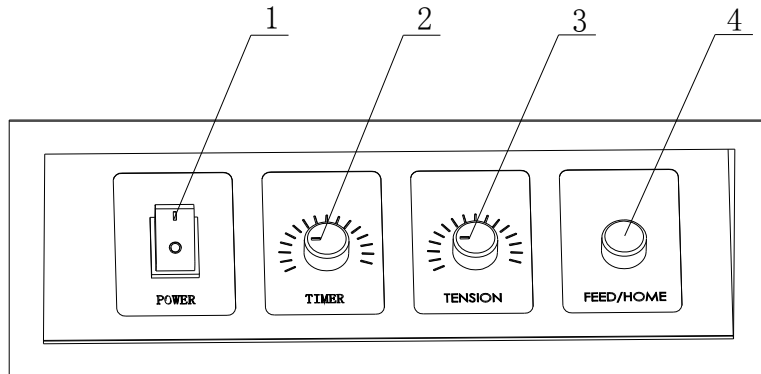
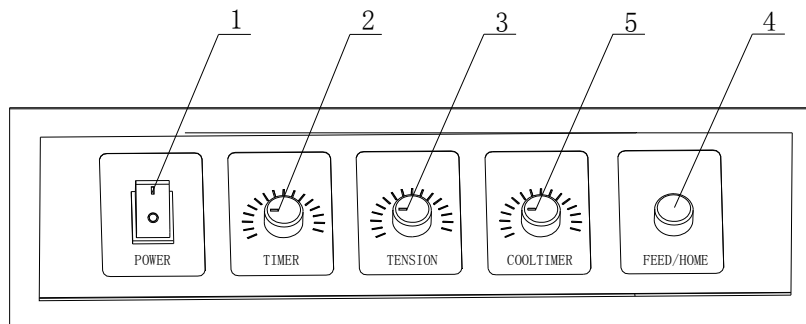

FIG 3-1
FIG 3-2
3-1 Functions of control panel (refer to FIG 3-1 and FIG 3-2)
- ② Turn on the power switch 1 indicated in the FIG 3-1 or FIG 3-2.
- ③ Put the package onto the machine close together to the barrier.
- ④ Pull the strap around the package and insert it along the strap-inserting path, then the machine will strap automatically.